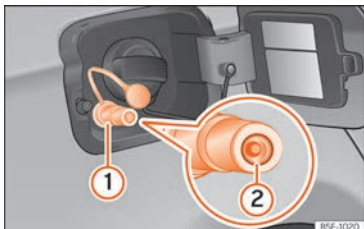

Fig. 305 Open tank lid: gas filler mouth ①, filler mouth retainer ②
- Remove the plug from the gas filler mouth » » » Fig. 305 ①.